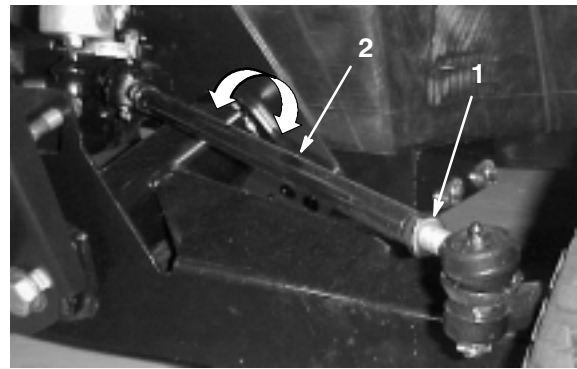

Figure 28
- To adjust, loosen jam nuts at both ends of tie rods (Fig. 28).